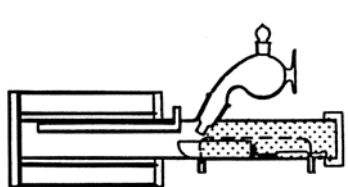
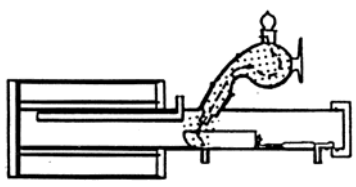
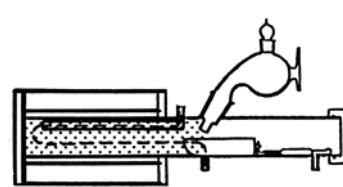

Fig.1 (Back purge)
Fig.2 (Sampler purge)
Fig.3 (Cell purge)
- Back Purge** : Set up time to purge Heating unit by carrier gas from the sample inlet to the boat outlet. (Normal 180s. see Fig.1)
- Cell Purge** : Set up time to purge by carrier gas from the sample inlet of Heating unit to the titration flask. (Normal 180s. see Fig. 3)
- Sample Purge** : Set up time to purge by carrier gas in sampler. (Normal 180s. see Fig. 2)
Set up the sample in Eggplant sampler to the sample inlet, and start from Back purge (Fig.1), Sampler purge (Fig.2) and then, Cell purge (Fig.3). When the drift is stable with carrier gas flowing through, start measurement.
Start Back purge (Fig.1), then Cell purge (Fig.3), and start measurement when the drift is stable with carrier gas flowing.